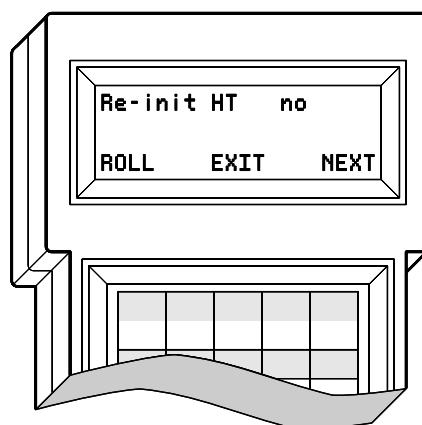

Figure 23. HHT setup display
1. Plug the HHT into the DIAG(NOSTICS) connector. Enable the setup mode by pressing the **SHIFT**, **CTRL** and **SPACE** keys in sequence. The display shown in Figure 23 will appear.